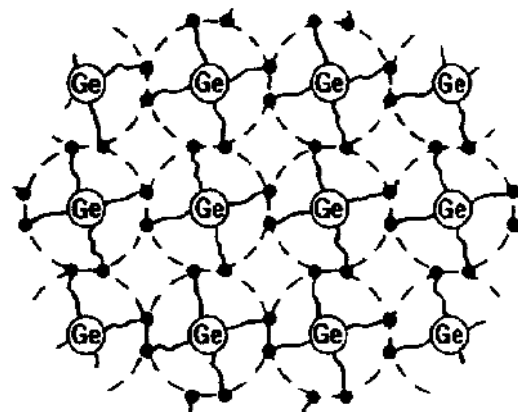
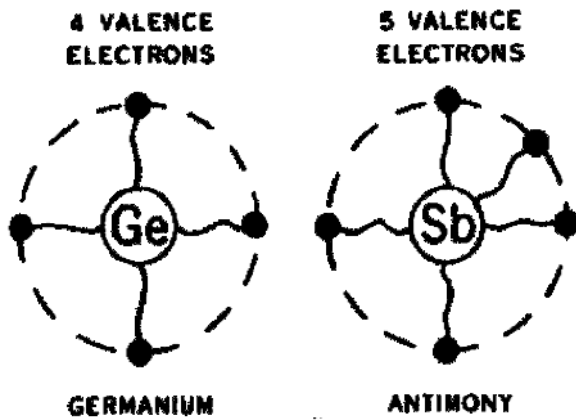

Figure 104. Crystalline germanium.
Figure 105. Typical atoms.
6. An atom that has only four electrons in its outer orbit or ring will combine with other atoms whose outer orbits are incomplete. If a number of germanium atoms are joined together into crystalline form, the process is called covalent bonding of germanium atoms. Figure 104 shows germanium atoms in covalent bonding. Figure 105 illustrates an atom of germanium and an atom of antimony. For simplification, only the nucleus and the outer rings are shown for each atom. The outer or valence ring for the germanium atom contains four electrons, while